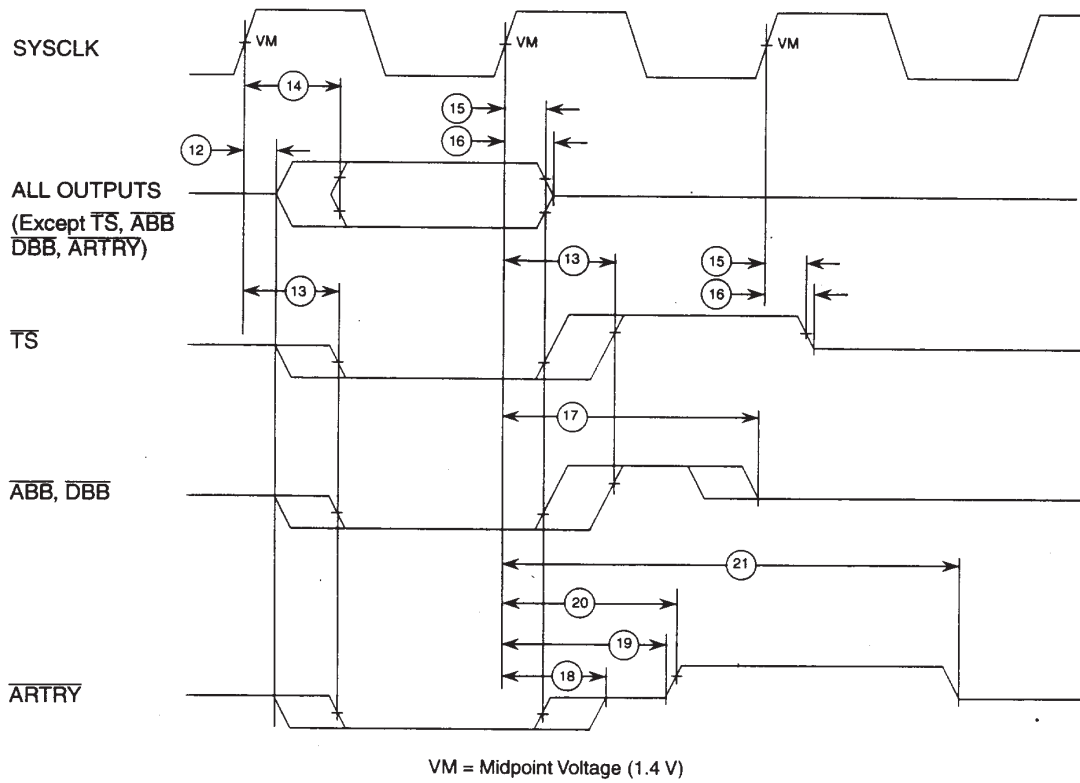

Figure 10 : Output timing diagram
Table 12 provides the output AC timing specifications for the 603p (shown in Figure 10).
- All output specifications are measured from the 1.4 V of the rising edge of SYSCLK to the TTL level (0.8 V or 2.0 V) of the signal in question. Both input and output timings are measured at the pin. See Figure 10.